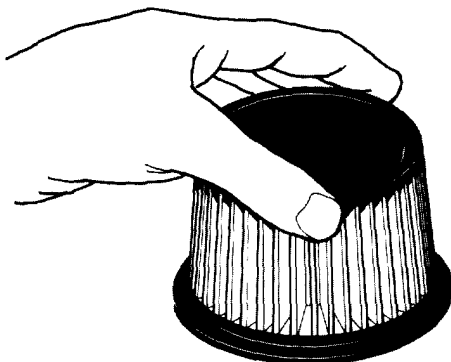

Figure 18
4. Tap element and cover lightly on a flat surface to remove dust and dirt (Fig. 18). Replace the element if it is bent, crushed, torn, or oil-soaked. DO NOT WASH OR OIL THE ELEMENT.